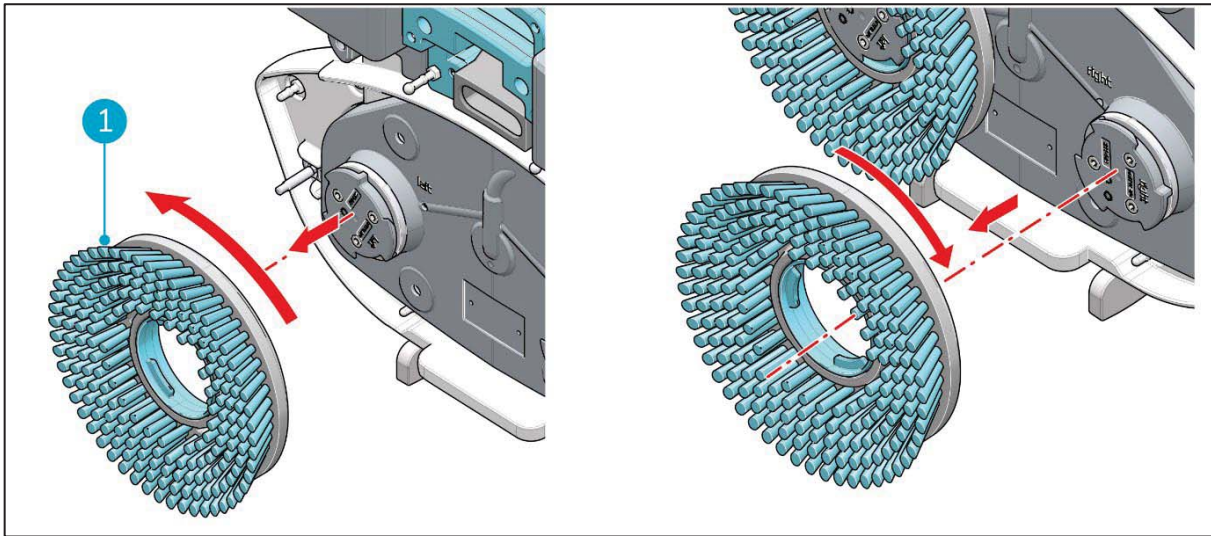

Figure 25
3. Using your other hand to turn the left brush (Figure 25, pos 1) anticlockwise until you feel resistance or see the motor disk turning as well.